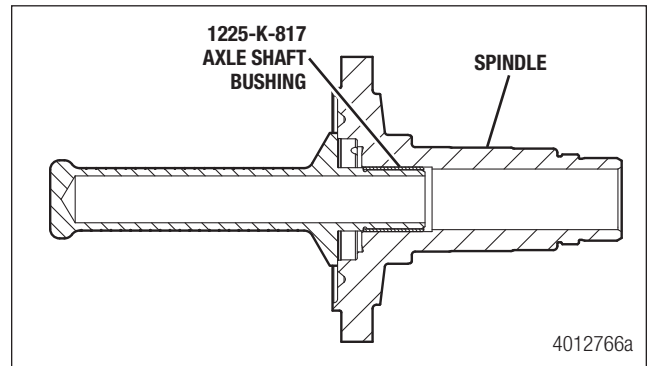

Figure 13.2
2. Use the axle shaft bushing installation tool (part number 3256-J-1050) to install the bushing into the spindle until it is fully seated. See Axle Shaft Seal Driver (3256-J-1050) on page 70. Figure 13.2.